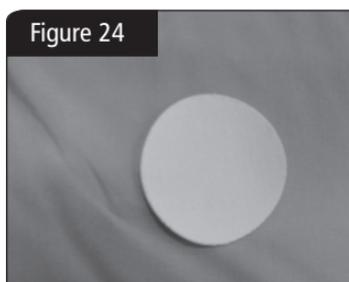

Figure 24
8. Ensure the patch is centered over the puncture. See Figure 24.